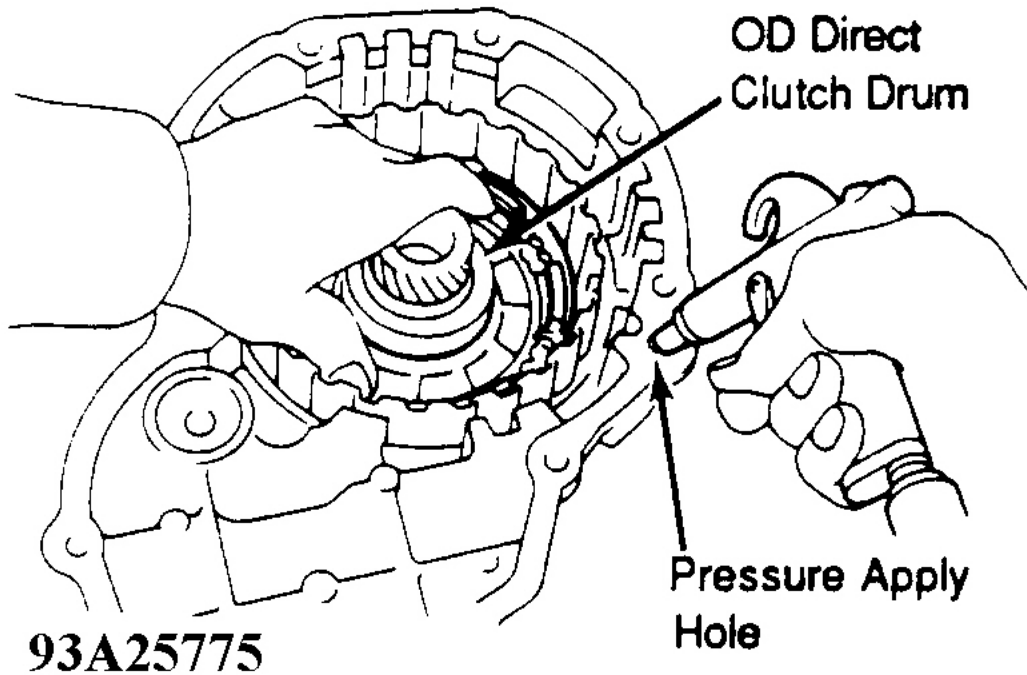

Fig. 42: Removing OD Direct Clutch From Case
3. Apply compressed air to pressure apply hole. Remove OD direct clutch drum from case. See **Fig. 42** . If piston does not completely come out, use needle-nose pliers to remove piston. Remove "O" rings from piston.